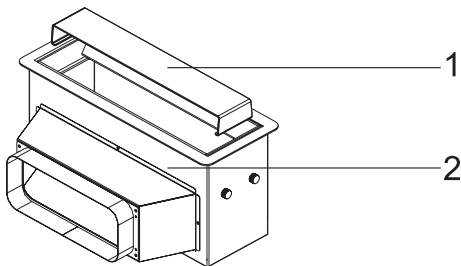

Fig. 11: Removing the metal cover
1. Remove the metal lid on the fresh air duct of you hood box (Fig. 11).